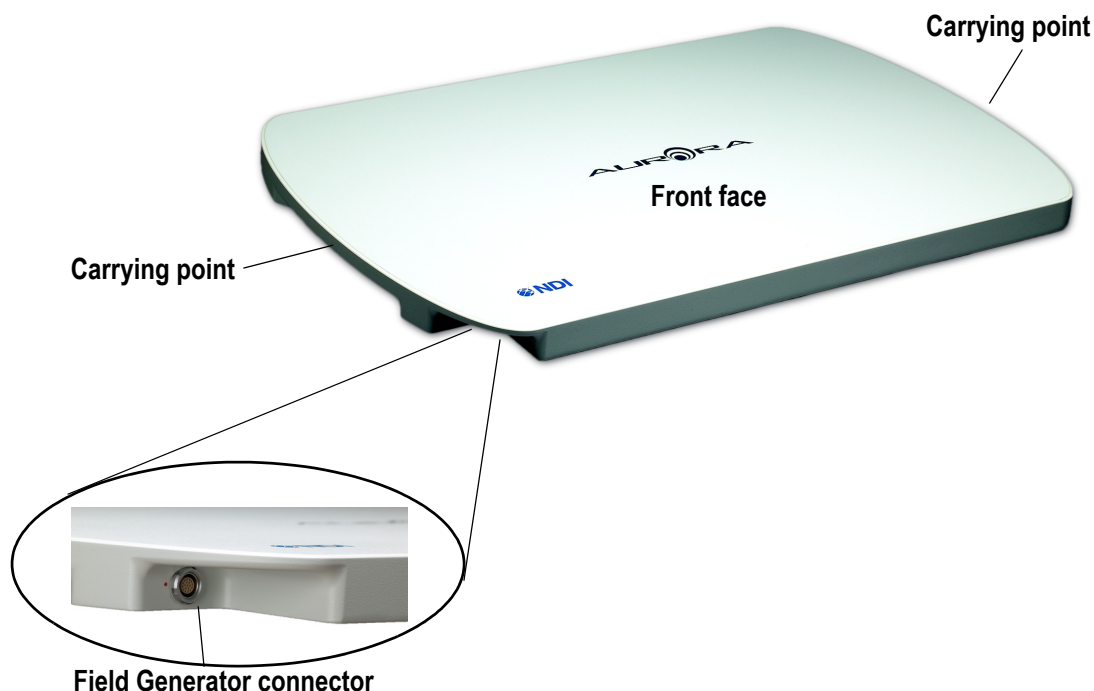

Figure 4-1 Tabletop Field Generator
The TTFG is described in the following table and illustrated in Figure 4-1.
2. Carry the Field Generator by the molded grips, located at either side of the Field Generator, see Figure 4-1 on page 22.